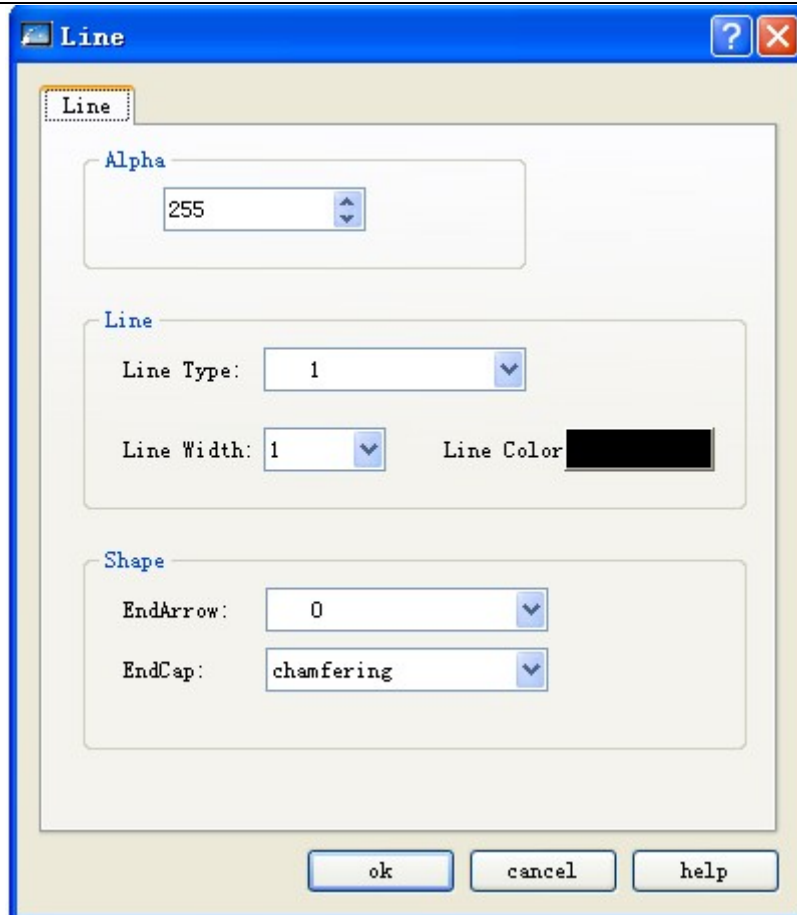

Figure 4-24: Line property dialog
- After completing the above steps, the line has default settings in transparency, line type, line width, line color, end arrow, and end shape. You can modify these settings basing on actual needs. To do this, move the mouse onto the line and double click, or click Properties button  in the tool bar after choosing the line. At this moment, a property dialog as shown in Figure 4-24 will appear.